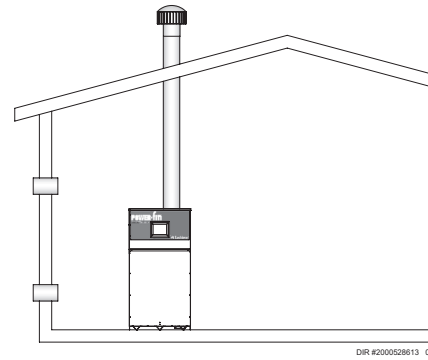

Figure 1-2_Combustion Air Direct from Outside
1. If air is taken directly from outside the building with no duct, provide two permanent openings to the equipment room each with a net free area of one square inch per 4000 Btu/hr input (5.5 cm² per kW) (see FIG. 1-2).